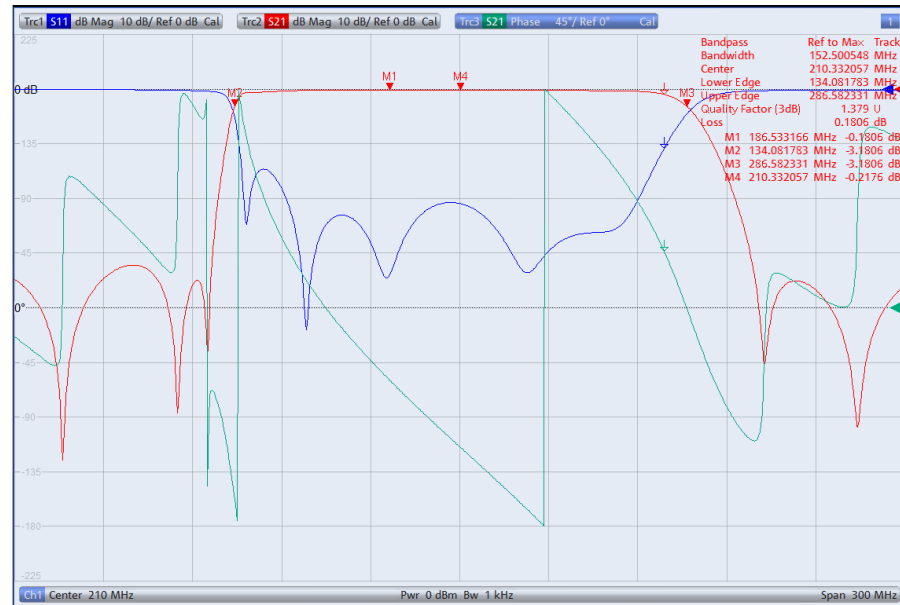

Fig. 5-11: Additional phase response measurement for S21 (green trace).
- In addition to the transmission value, the phase response can also be displayed (Fig. 5-11). Press the *TRACE CONFIG* key and use *Add Trace* to generate another trace. Press the *FORMAT* key and select *Phase*.